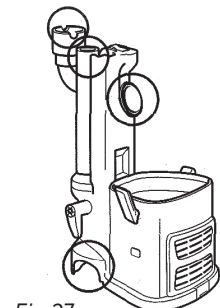

Fig.27
- Remove the dust cup and extension wand and separate the portable Lift-Away® canister from the motorized floor brush. Look in all 4 openings for any blockages. (Fig. 27)